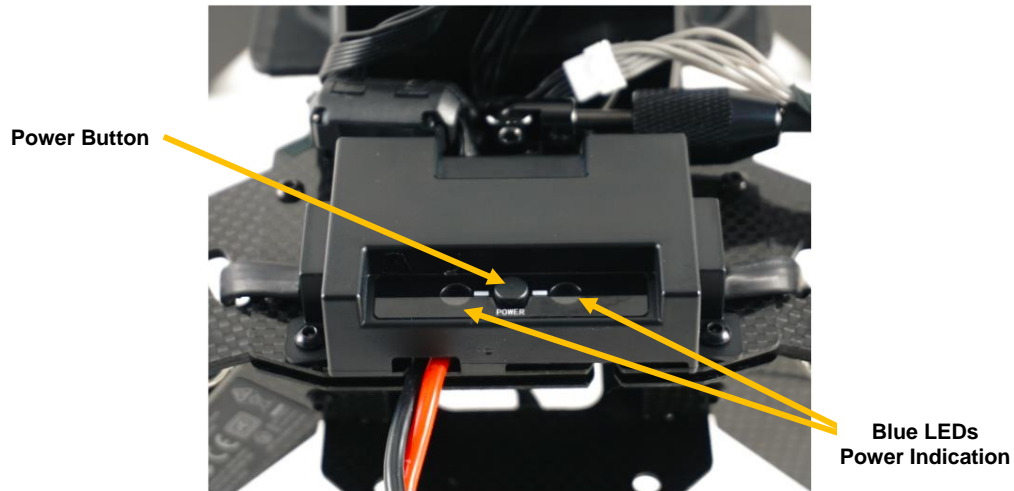

Figure 5. Power Button
- i. Press the power button on the drone (**Figure 5**) for about 1 second. The two blue LEDs immediately adjacent to the power button will illuminate a steady blue and the cooling fan will spin.
- b. Press and hold the power button (Figure 5) on the drone for approximately 5 seconds until the blue LEDs blink (3 times). About 10 seconds later, the drone will power OFF. During these 10 seconds, the embedded Linux operating system is performing a graceful shutdown.